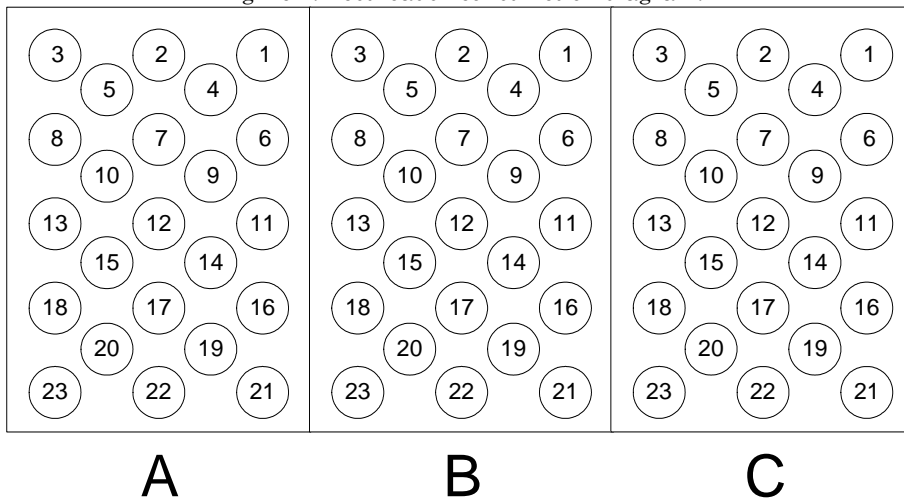

Figure 2. Transponder J2 - pin locations.
f. Connect one end of ac load (fig. 1A) to **TRANSPONDER J2** pin C15 (fig. 2), using appropriate lead. Connect other end of ac load to **TRANSPONDER J2** pins C14 and C13 (fig. 2), using appropriate leads.